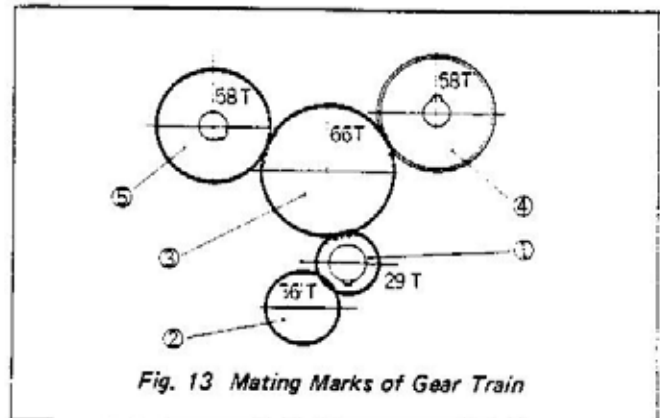

Fig. 13 Mating Marks of Gear Train
1. Be sure to assemble the gears by matching mating marks correctly as shown in Fig. 13. The backlash of the gears is 0.04 to 0.11 mm.